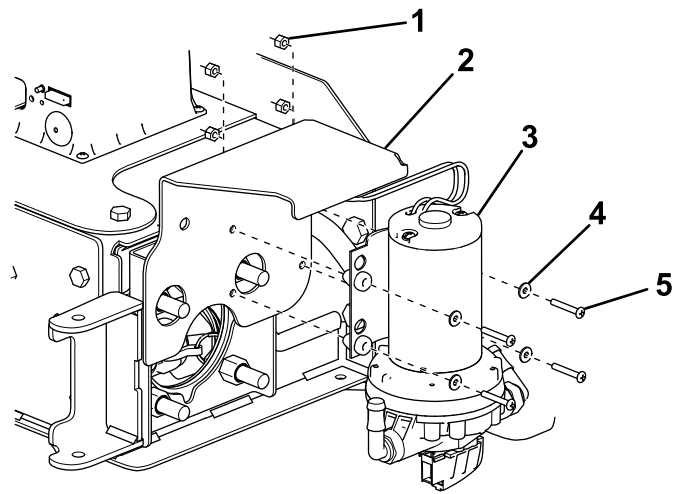

Figure 20
- 11. Secure the pump to the pump bracket using 4 bolts (#10 x 1-1/4 inches), washers, and nylon nuts (Figure 20).